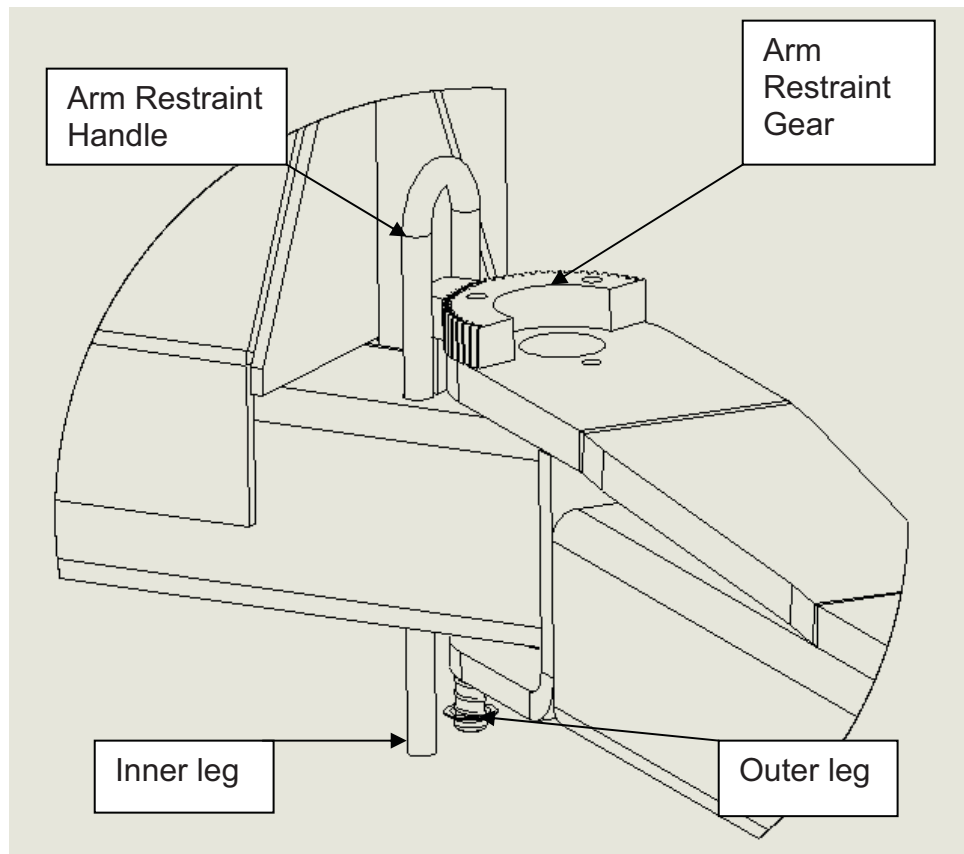

**Figure 16 – Arm Installation**
1. Remove the four (4) 5/16"-18UNC x 3/4"LG. hex head bolts that are holding the arm pins to the arm. Install the arms on the carriages.
- Using two (2) 5/16"-18UNC x 1 1/4" LG. hex head bolts and two (2) 5/16" flatwashers, attach each arm restraint gear as shown in **Figure 16**.